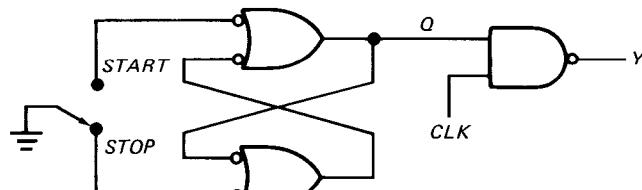

Fig. 7-21
- 7-7. Figure 7-21 shows a NAND latch used as a switch debouncer. With the switch in the *STOP* position, what do *Q* and *Y* equal? If the switch is thrown to the *START* position, what do *Q* and *Y* equal?